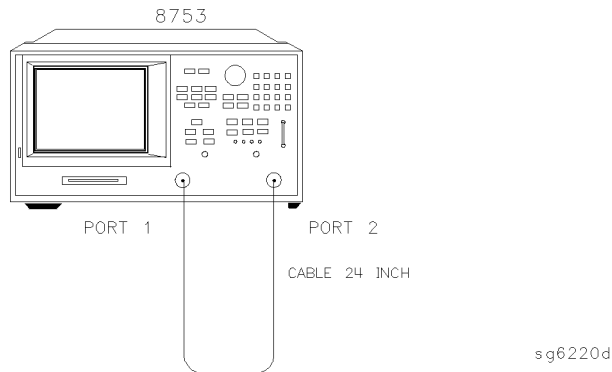

Figure 6-20. Receiver R Input Impedance Test Setup
- 19 Connect the equipment as shown in Figure 6-20.